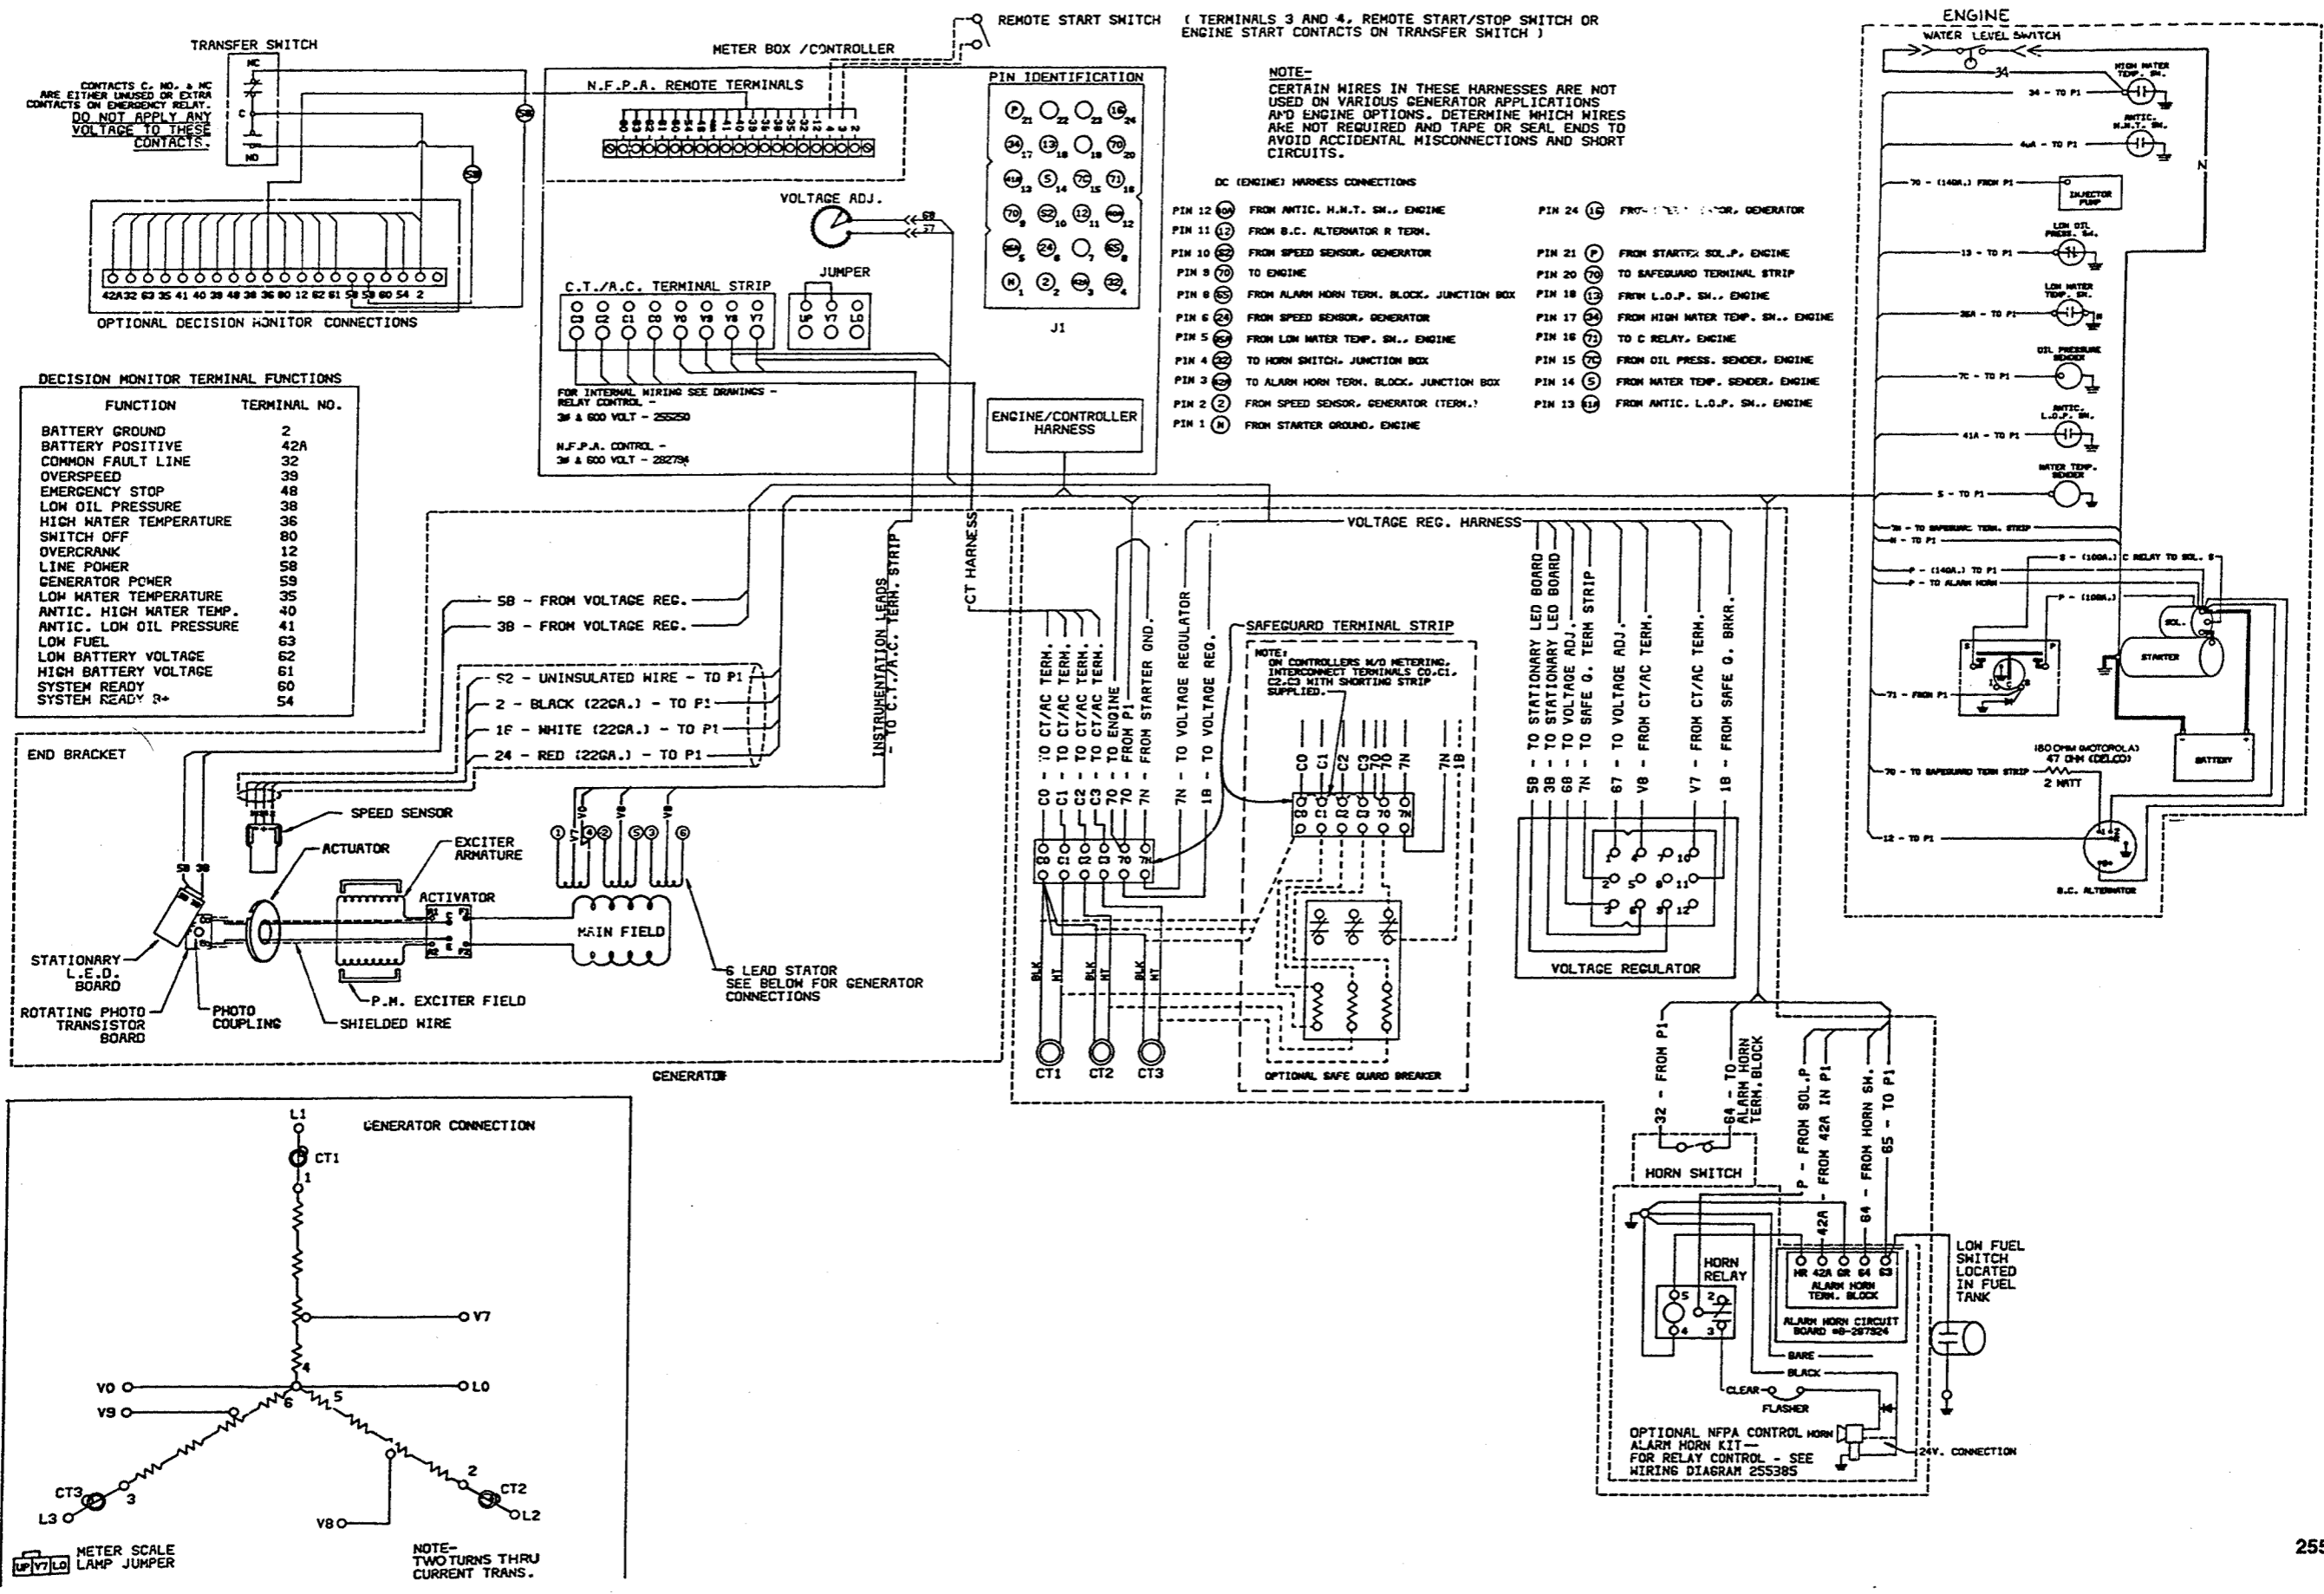

Figure 7-10. Cummins 4B, 6B Diesel, 600-Volt
- Figure 7-10. Cummins 4B, 6B Diesel, 600-Volt